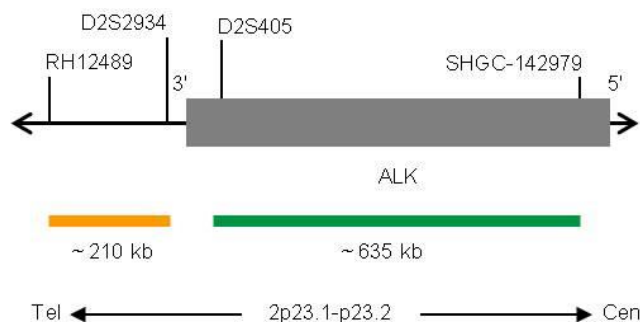

Fig. 1: ALK Probe map (not to scale)
- ZyGreen (excitation 503 nm/emission 528 nm) labeled polynucleotides (~6.0 ng/μl), which target sequences mapping in 2p23.1-p23.2* (chr2:29,460,144-30,095,822) proximal to the ALK breakpoint region (see Fig. 1).
- ZyOrange (excitation 547 nm/emission 572 nm) labeled polynucleotides (~4.0 ng/μl), which target sequences mapping in 2p23.2* (chr2:29,174,204-29,383,335) distal to the ALK breakpoint region (see Fig. 1).